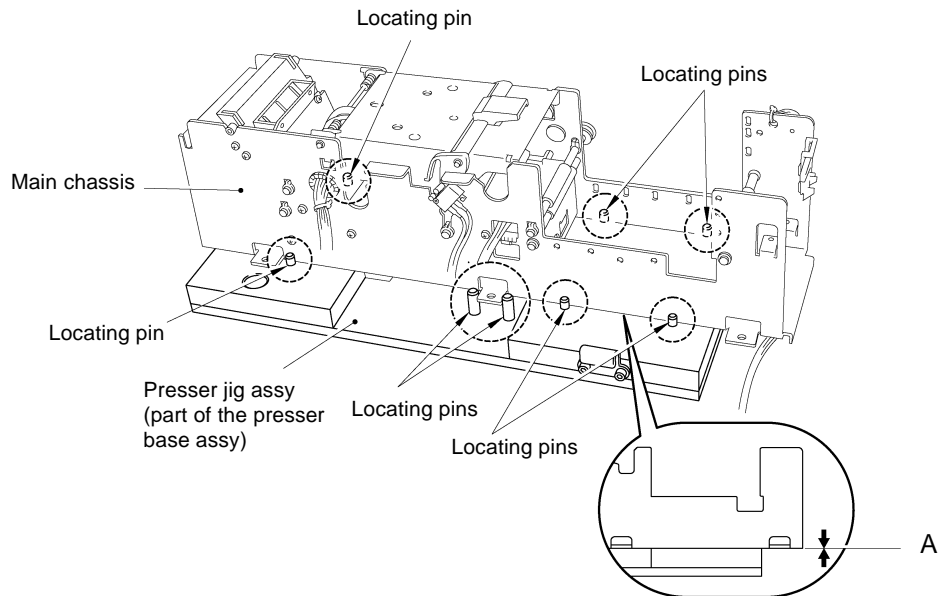

Fig. 3.72A
- (1) Place the main chassis on the presser jig assy (part of the presser base assy) at the specified position, as shown in Fig. 3.72A.